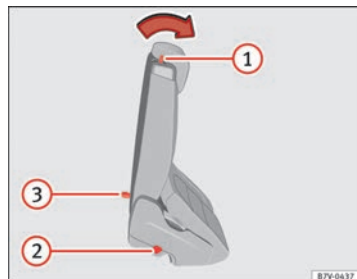

Fig. 81 Second row of seats: convenient entry function controls
- Remove any objects located in the footwell of the second row of seats, where applicable ⇒ ②.
- Push the lever ⇒ Fig. 81 ① forwards and fold the seat backrest of the rear seat. The seat can still be moved forwards when rear seat is folded completely forwards ⇒ ③.
- Always take care when entering and leaving the vehicle ⇒ ④.